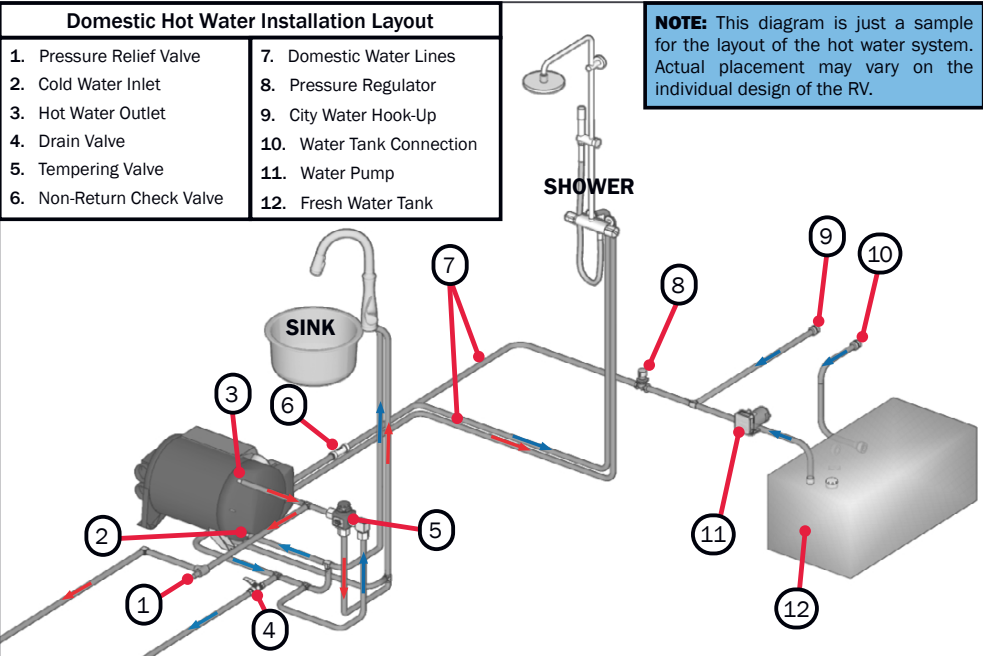

Figure 20
- The non-return valve (#6 Figure 20) must be installed in the proper direction: